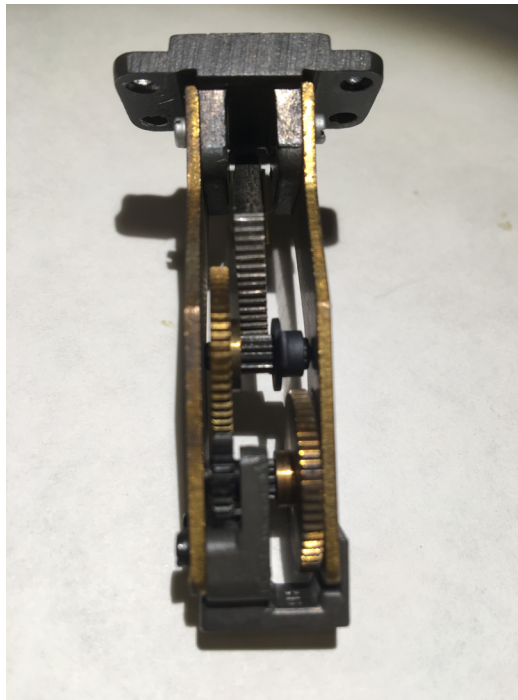
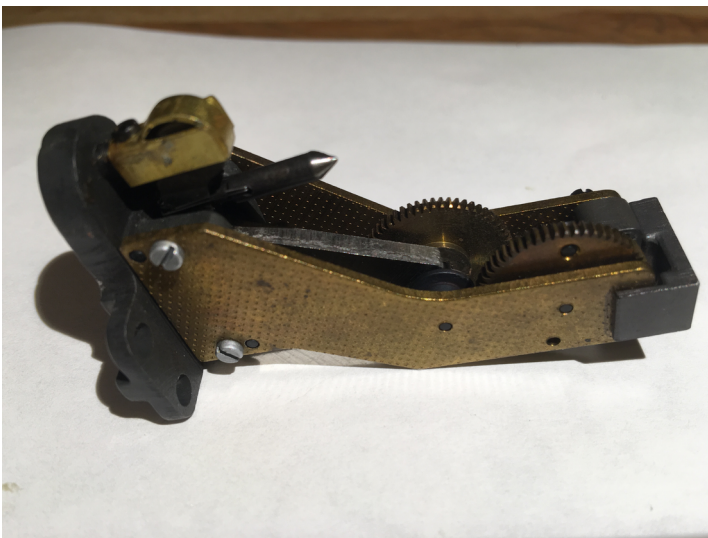
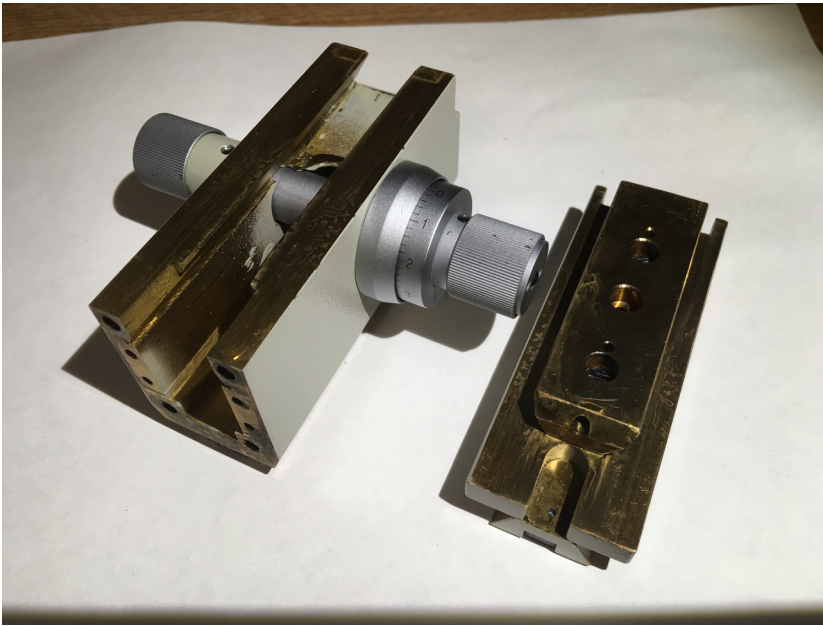

Figure 8
Figure 9
Figure 10
* Lift the black plate straight up to remove the fine-focus gear cluster from the focus block. This gear cluster should already be clean and free of any grease or oil. (Figure 8, Figure 9)
Notice the pointed steel pin. The gears raise and lower this pin to push a fine-focus dovetail slide up and down. The fine-focus dovetail slide has a hole in the end to receive this pin. (Figure 9)
* The fine-focus dovetail slide [part on the right] must be removed from the focus block by sliding it down toward the bottom of the focus block. Remove it from the bottom. (Figure 10)
Notice the hole drilled into the bottom end of the upper dovetail. (Figure 10) That hole receives the steel pointed pin of the fine-focus gear cluster. (Figure 9) Set the fine-focus slide aside.